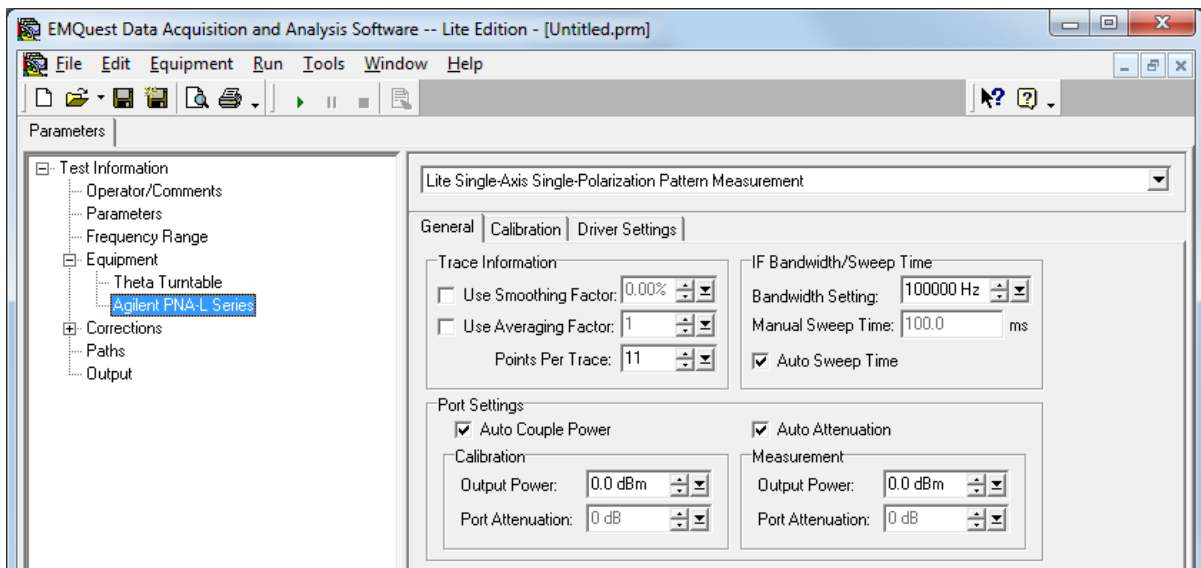

Figure 8. Network analyzer settings.
9. Go to the "Agilent PNA-L Series" pane. The NA calibration and other parameters can be specified here. Make sure all settings match those shown in Figure 8 below. Under "Trace Information", you may smooth the measured data using the two functions given there. However, these are normally not needed in pattern measurements if the setup is done properly. The value in "Points Per Trace" sets the number of frequency points that will be taken within the frequency range selected in STEP 6. The measurement "Output Power" level can be used to select the source power level; this can be adjusted in a second measurement if the noise level is unacceptable. This control should be used with caution to prevent overloading the inputs, and it is recommended to keep the output power level below 15 dBm.